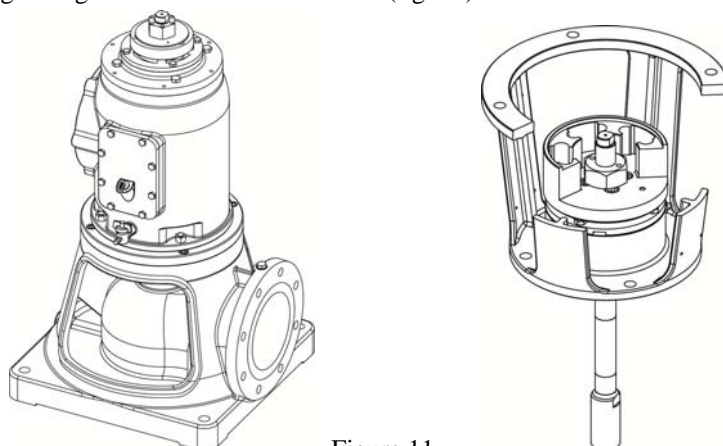

Figure 11
- Rescrew by hand the regulating nut until it touches its base (fig. 11).